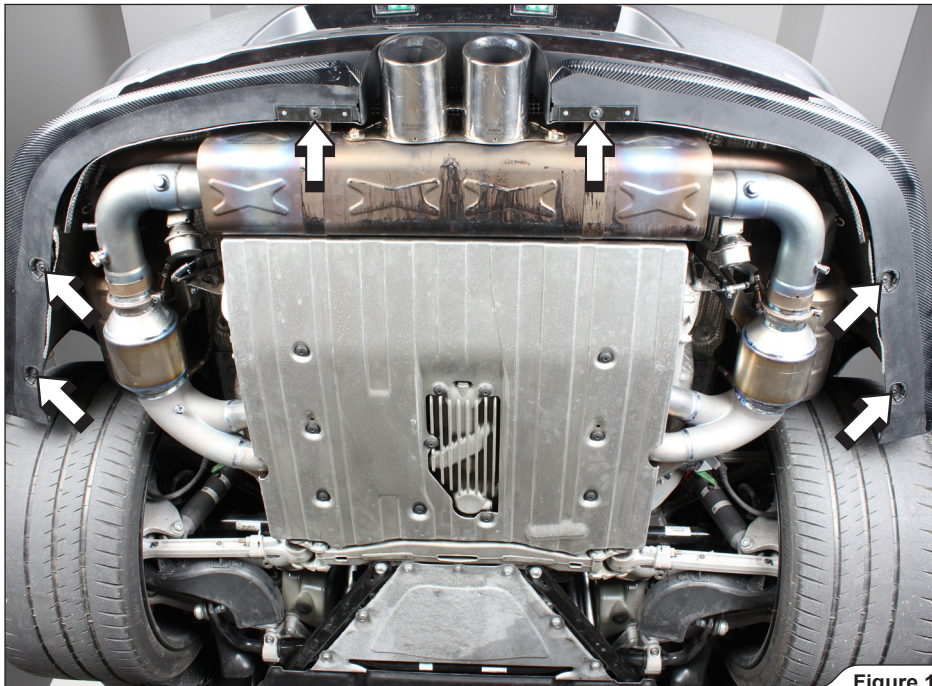

Figure 1
1. Unscrew the marked bolts on both sides of the vehicle (Figure 1, 2).